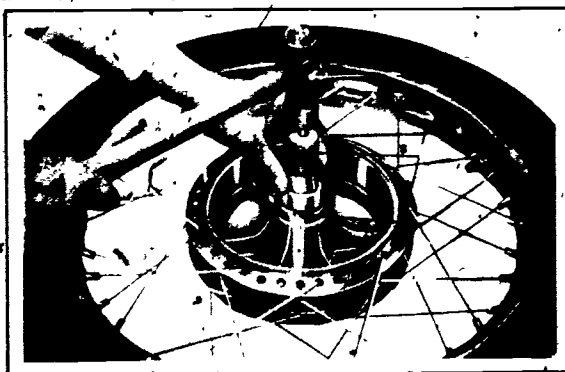

FIGURE 3
- C. Drive out the wheel bearings using the brass drift or bushing drivers and hammer (Figure 3)